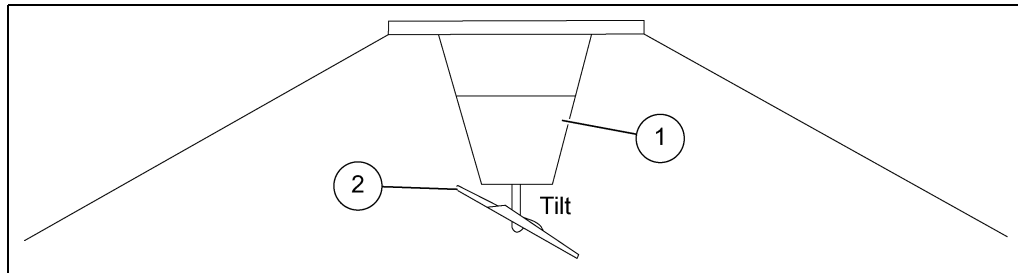

Figure 5A Adjustment of the Tilt
1. Tilt adjusts the entire spreader blade, which controls overall grain spread. To adjust tilt, loosen the two U-bolts that allow the blade to tip up and down. This may vary according to bin diameter and fill rate. (See Figure 5A.)